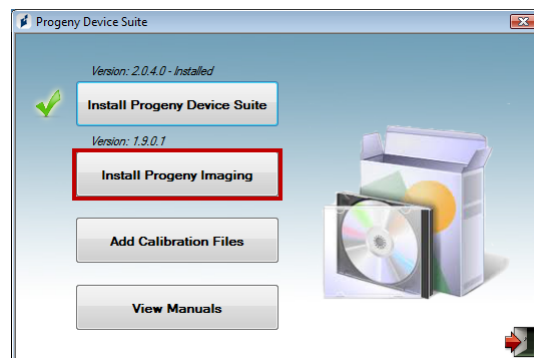

Figure 6: Starting the Progeny Imaging installation
- A green check mark next to the ‘Install Progeny Device Suite’ button will appear when Progeny Device Suite installation is completed. Continue by installing Progeny Imaging software by clicking on ‘Install Progeny Imaging’ button (Figure 6) and follow the prompts on the screen to perform the installation.